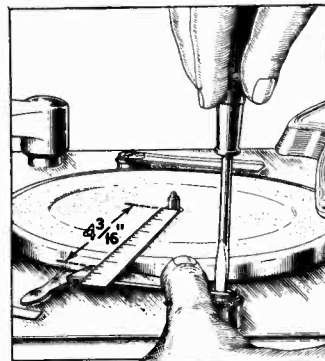

Figure 3—Adjusting elevator pad
7. After the instrument has completed one record changing operation, a ten inch record should extend about three-quarters way over each elevator pad. If this condition does not exist, an adjustment can be made by means of the screws that hold the pads in position. A pair of pliers heavily padded with cloth or other soft material should be used to hold the elevator shafts while loosening and tightening the screws. The distance from the closest part of either pad to the edge of the spindle is approximately  $4\frac{3}{16}$ ". Figure 3 shows the method of making this adjustment.
- (a) Improper horizontal adjustment of elevator pads. The elevator pads Figure 16, should be so adjusted that the inside of the pad flange is  $4\frac{3}{16}$ " from the nearest side of the turntable spindle. See Figure 3. Loosen the screw on top of the elevator shaft, move the pad to its correct position, holding both the pad and the elevator shaft in position and tighten the screw. Care should be observed that the ridge in the elevator shaft is not turned against the slot in the elevator shaft actuating lever so as to cut the latter. Grip the shaft with padded pliers while this adjustment is being made in order to prevent the shaft from turning. If for any reason the elevator pads have been removed, always place the one with the rubber surface toward the front of the mechanism when replacements are being made.